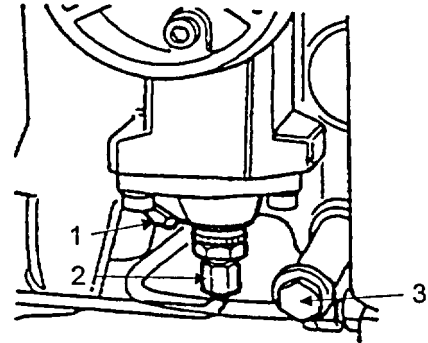

FIGURE 3-5. VENTING THE OIL PUMP
4. Remove the oil drain plug from the compressor, (Figure 3-5, item 3).
If bubbles are visible in the oil pressure regulating valve sight glass, especially after maintenance or repair work, venting the oil pump will be necessary. Refer to Figure 3-5 and proceed as follows: